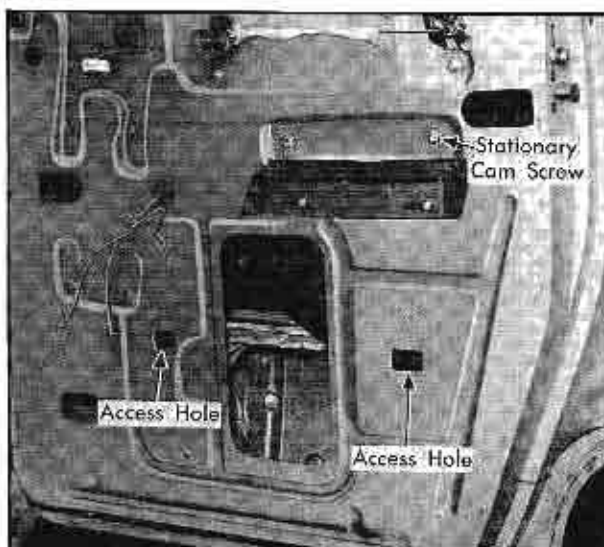

Fig. 3-42 Rear Door Assembly
1. To correct a condition where the door glass is "cocked" in the glass run channels, loosen stationary cam screw. Fig. 3-42, and adjust rear end of stationary cam up or down as required and tighten screw.
5. Through access holes, Fig. 3-42, remove four screws securing window assembly to regulator cam.